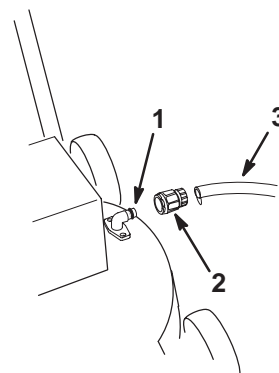

Figure 20
2. Attach a quick-disconnect coupling (sold separately) to the end of the garden hose (Fig. 20).
3. Attach the coupling to the lawn mower washout fitting (Fig. 20).